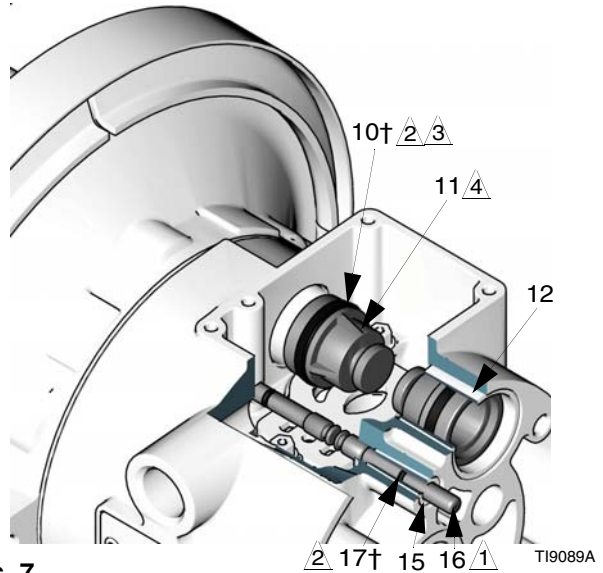

FIG. 7
4. Pull the two actuator pistons (11) out of the bearings (12). Remove the u-cup packings (10) from the pistons. Pull the pilot pins (16) out of the bearings (15). Remove the o-rings (17) from the pilot pins. See FIG. 7.
6. Inspect the bearings (12, 15) in place. See FIG. 7. The bearings are tapered and, if damaged, must be removed from the outside. This requires disassembly of the fluid section. See page 24.
3. Install an o-ring (17†) on each pilot pin (16). Grease the pins and o-rings. Insert the pins into the bearings (15), **narrow** end first. See FIG. 7.
4. Install a u-cup packing (10†) on each actuator piston (11), so the lips of the packings face the **narrow** end of the pistons. See FIG. 7.
5. Lubricate the u-cup packings (10†) and actuator pistons (11). Insert the actuator pistons in the bearings (12), **wide** end first. Leave the narrow end of the pistons exposed. See FIG. 7.